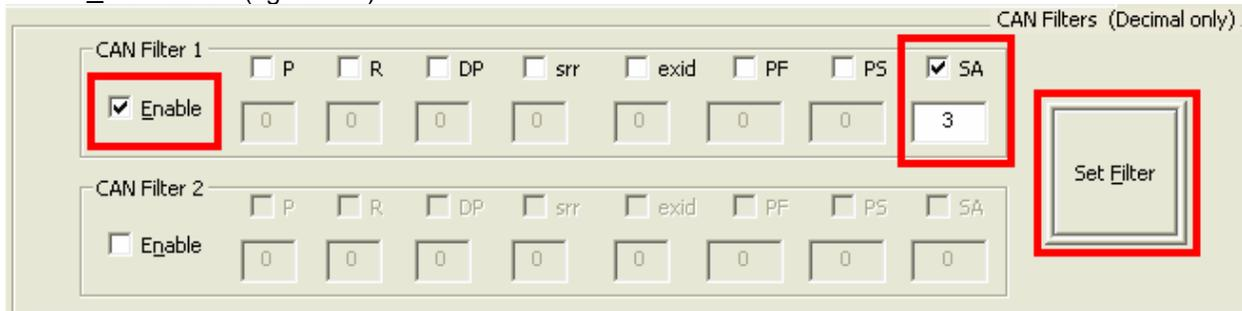

Figure A-2 Enable CAN Filter 1, display data with SA=3
Step 1. In CAN Filter area: Check Enable for CAN Filter 1 → check SA → set SA=3 → click "Set Filter" button (figure A-2).